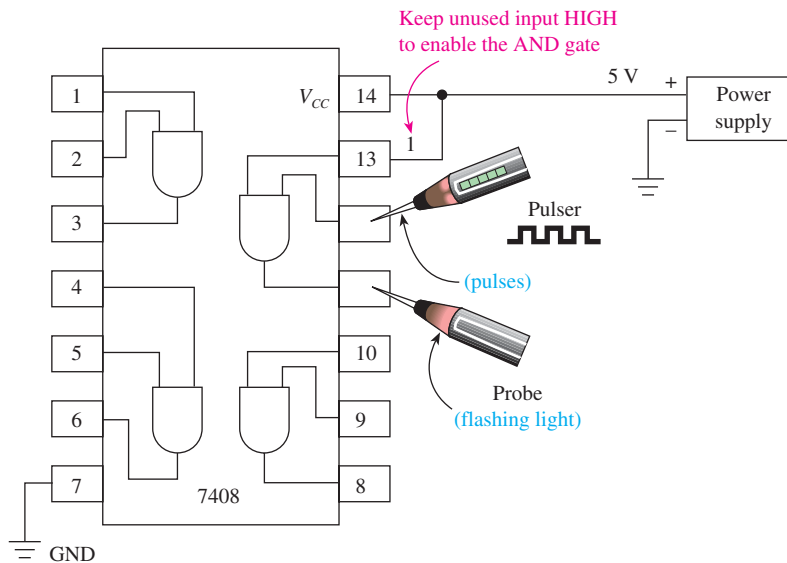

Figure 3–24 Connections for troubleshooting one gate of a quad AND IC.
be darkened from excessive heat. Notice the four transistors in the middle of Figure 3–23(d). The one on the lower left looks charred and is probably burned out, thus acting like an open.
The IC AND gate in Figure 3–24 is suspected of having a fault and you want to test it. What procedure should you follow?
Solution: First you apply power to V_{CC} (pin 14) and GND (pin 7). Next you want to check each AND gate with the pulser/probe. Because it takes a HIGH (1) on *both* inputs to an AND gate to make the output go HIGH, if we put a HIGH (+5 V) on one input and pulse the other, we would expect to get pulses at the output of the gate. Figure 3–24 shows the connections to test one of the gates of a quad AND IC. When the pulser is put on pin 12, the light in the end of the probe flashes at the same speed as the pulser, indicating that the AND gate is passing the pulses through the gate (similar in operation to the clock enable circuit of Figure 3–16).